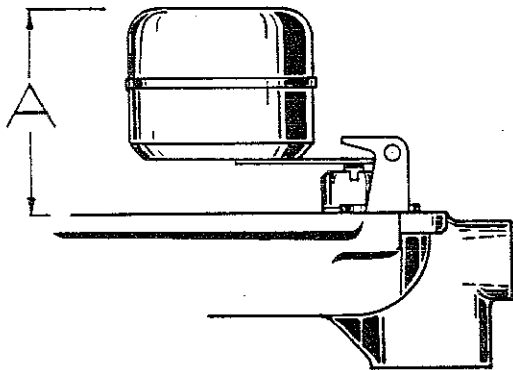

Fig. 38. Float Level Adjustment Diagram
(14) Set throttle stop-screw to hold throttle slightly open, as a preliminary adjustment.
(15) Install stop-lever assembly on the shaft so that the stop lever is resting against the stop pin when the throttle plate is wide open (straight up and down in the barrel).
(16) Drill and pin stop-lever hub to shaft, using a No. 45 drill and CT63-2 taper pin.
(17) Replace economizer jet and new gasket, using a small screwdriver (one-quarter-inch blade).
(18) Replace idling jet (6), using small screwdriver ($\frac{3}{16}$ -inch blade). No gasket is required.
(19) Place main venturi (1) in position with locating groove on the locating pin.
(20) Place secondary venturi (3) in slots provided in main venturi.
(21) Replace fuel valve seat and new gasket, using C161-85 service tool.
(22) Replace fuel valve needle.
(23) Replace float assembly and float axle, using the handle end of a screwdriver to drive the float axle into the slotted end of the float-hinge bracket.
(24) Check position of float assembly for correct fuel level. As shown in Figure 38, the A dimension should be $1\frac{3}{64}$ inches plus or minus $\frac{3}{64}$ inch. Float should move freely on its axle.
(25) Place a new bowl-to-body gasket in position on the throttle body. Be sure that the economizer channel in throttle body coincides with hole in gasket.
(26) Place bowl assembly in position on the throttle body, being careful to avoid damaging the float.